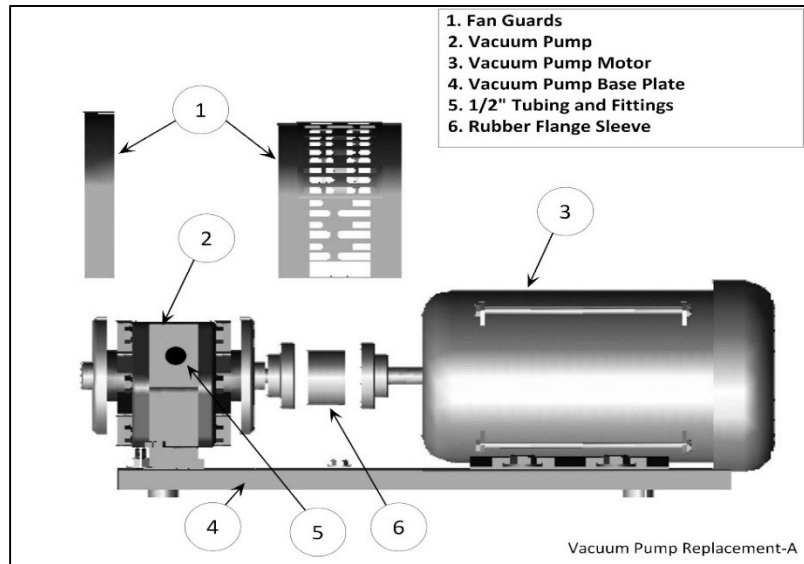

Figure 9-22: Vacuum Pump Assembly and Components
1. For the Vacuum Pump Assembly and Components, **See Figure 9-22.**
4. Remove the fan guard (the large center guard #1 in **Figure 9-22**) for access to the coupling flanges and removal of the Vacuum Pump.
See Figure 9-22.